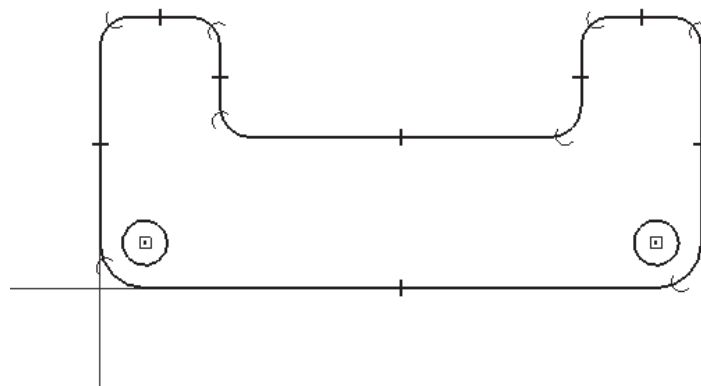

Figure 1-28 Final profile for Tutorial 1
7. Move the cursor over the center point of the bottom right fillet and click when the concentric relationship handle is displayed. The final profile for Tutorial 1 is shown in Figure 1-28.